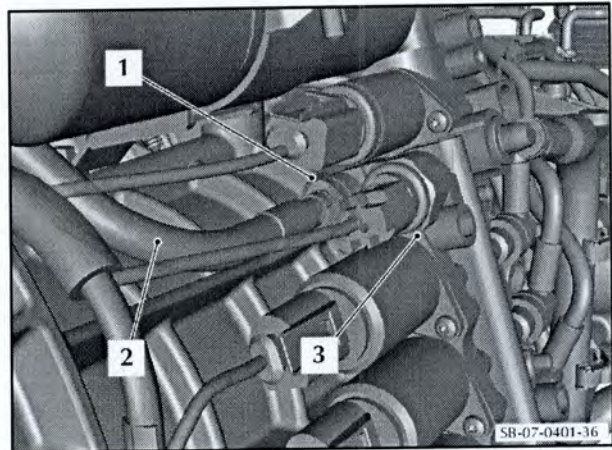

Figure 36
68. On the transaxle assembly, remove the clip (1) that attaches the clutch fluid hose (2) into the valve block (3) (refer to Figure 36).
69. Disconnect the clutch fluid hose (2) from the valve block (3).
70. Discard the clutch fluid hose (2).
71. Install the new hose (2) from the EVO pipe kit C (refer to Part Data).
72. Install the new retaining clip (1) to hold the hose (2) into the valve block (3).